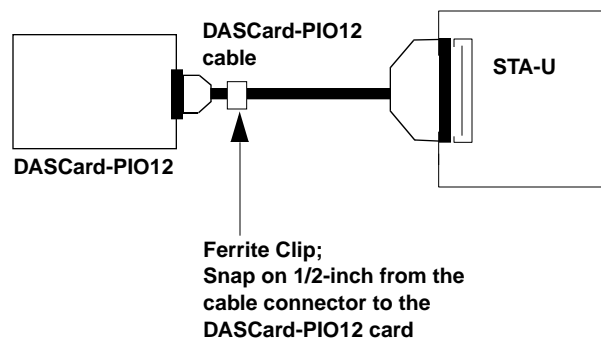

Figure 2. Snapping on the Ferrite Clip
1. Position the supplied ferrite clip about 1/2-inch from the end of the cable connector attached to the DASCARD-PIO12 card, as shown in Figure 2.